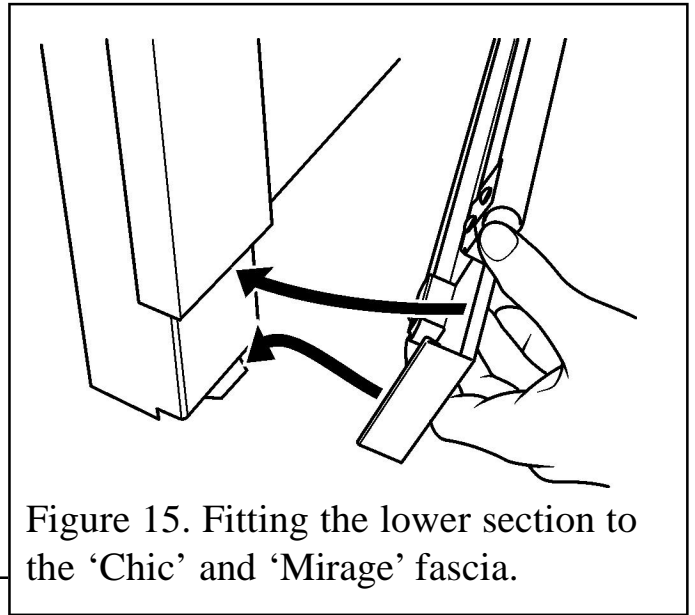

Figure 15. Fitting the lower section to the 'Chic' and 'Mirage' fascia.
1. The lower section of the fascia is secured with magnets. Locate it as in figure 15. The bottom of the lower section should sit on the tags as shown.